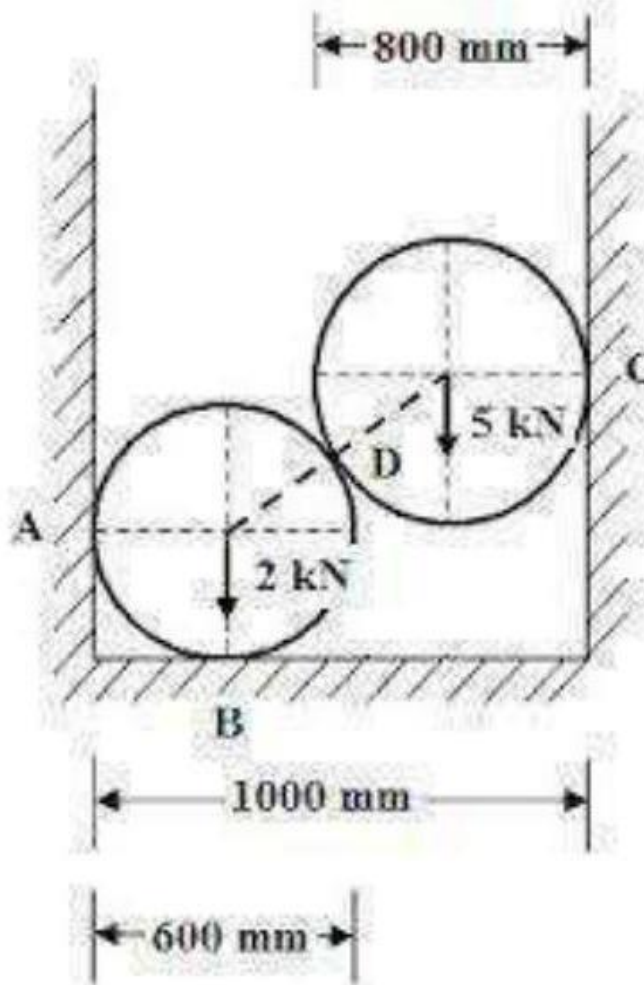

Figure 14 (P: 14).
**Problem 14:** Determine the reactions at the contact surfaces  $A, B, C$  and  $D$  for the cylinder of weight  $2.0 \text{ kN}$  and  $5.0 \text{ kN}$  resting as shown in figure 14 (P: 14).